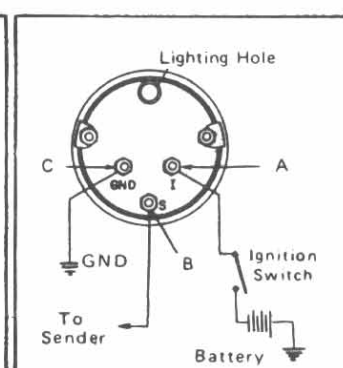

FIGURE 4
- Figure 4, **THREE TERMINALS**: (A) for wire to ignition, (B) for wire to sending unit, (C) for wire to ground.